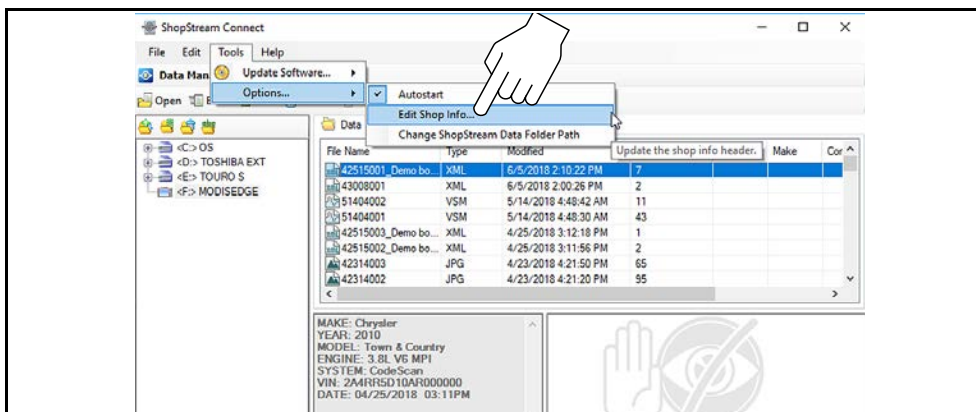

Figure 15-8
1. From ShopStream Connect, select **Tools > Options > Edit Shop Info** (Figure 15-8).